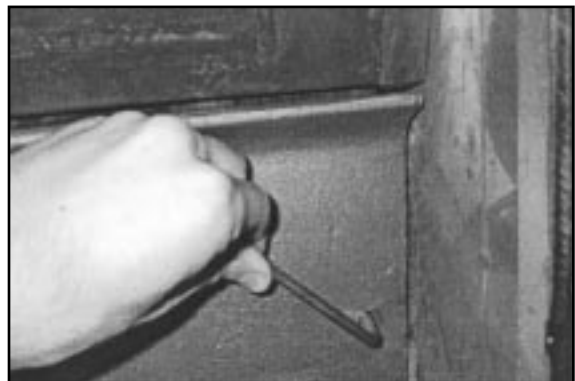

fig. 25
- 5 On the Ecologica IDRO, the mobile firewall can be removed once a month ( see Fig.25).